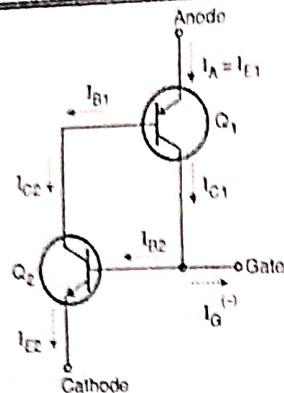

Fig. 1.15.2 : Two transistor model of GTO
- Refer to the equivalent circuit shown in Fig. 1.15.2
- In order to reduce the base current of Q_2 , a negative gate current $I_G^{(-)}$ must flow in the direction as shown in Fig. 1.15.2.
- A typical turn-on gate pulse and its important parameters are shown in Fig. 1.15.2(a).
(G-2960) Fig. 1.15.2(a) : Typical turn-on pulse of a GTO
- Fig. 1.15.2(b) shows the typical anode and gate currents during the turn-off. The gate turn-off process involves the extraction of the gate charge, the gate avalanche period, and the anode current decay.
(G-2961) Fig. 1.15.2(b) : Anode and gate currents during turn-off